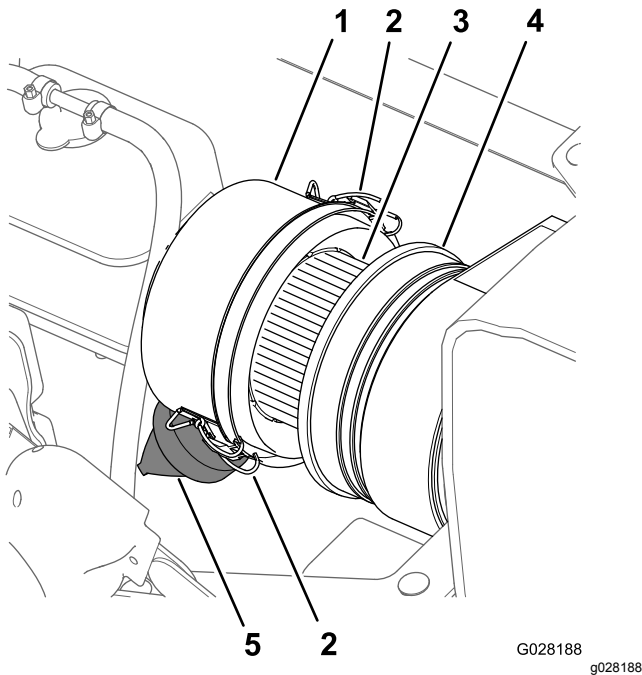
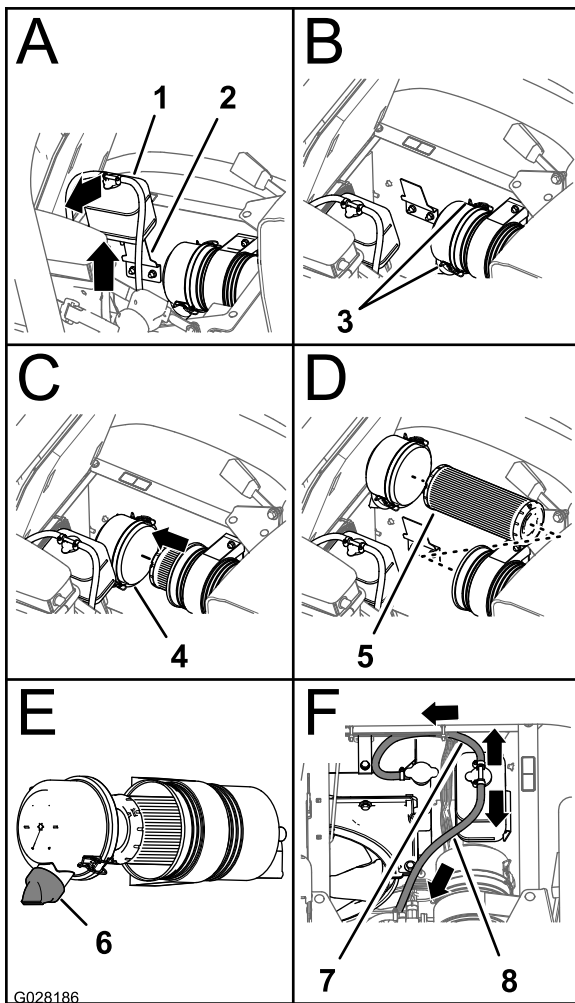

Figure 56
Figure 57
3. Wipe clean the dust cap and air cleaner body (Figure 56).
4. Check the air cleaner body for damage that could cause an air leak (Figure 56).
5. Squeeze the dust valve to clear it of dirt, dust, and debris (Figure 56).
7. Check the air filter element for excessive accumulation of dust, dirt, and debris (Figure 56).
8. Install the dust cap onto the air cleaner body and secure the cap with the 2 latches (Figure 56).
2. Wipe clean the dust cap and air cleaner body (Figure 56).
3. Lift the coolant overflow tank up and off of the tank-support bracket (Figure 57).
4. Loosen the 2 latches that secure the dust cap to the air cleaner body (Figure 57).
6. Wipe clean the inside of the dust cap, air cleaner body, and dust valve with a damp rag (Figure 56 and Figure 57).
7. Insert the air filter element into the air cleaner body (Figure 57).
8. Install the cover onto air cleaner body and secure the cover with the 2 latches (Figure 57).
Note: Ensure that the dust valve is aligned between 5 to 7 o'clock position when viewed from the end (Figure 57).
9. Align the coolant overflow tank to the tank-support bracket and seat the tank firmly (Figure 57).
Important: Ensure that the pressure relief hose is routed forward and down and tank-vent hose is routed rearward as shown in Figure 57.